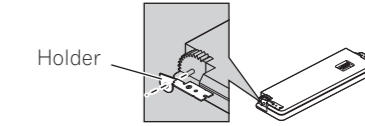

Fig. 15
1. Attach the holders to both sides of the front panel. (Fig. 15)